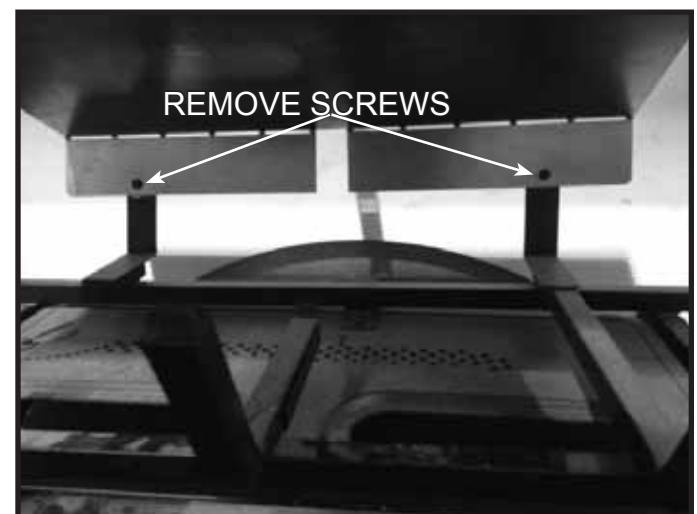

Figure 11.11 Remove Shipping Bracket
4. Bend shipping bracket up slightly, exposing the two screws that retain the shipping bracket to the log grate. Remove the screws and discard shipping bracket. See Figure 11.11.